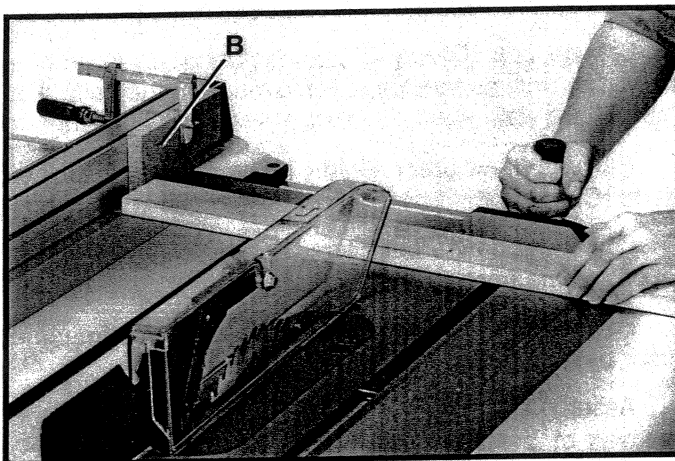

Fig. 81
When cross-cutting a number of pieces to the same length, a block of wood (B), can be clamped to the fence and used as a cut-off gage as shown in Fig. 81. It is important that this block of wood always be positioned in front of the saw blade as shown. Once the cut-off length is determined, secure the fence and use the miter gage to feed the work into the cut.